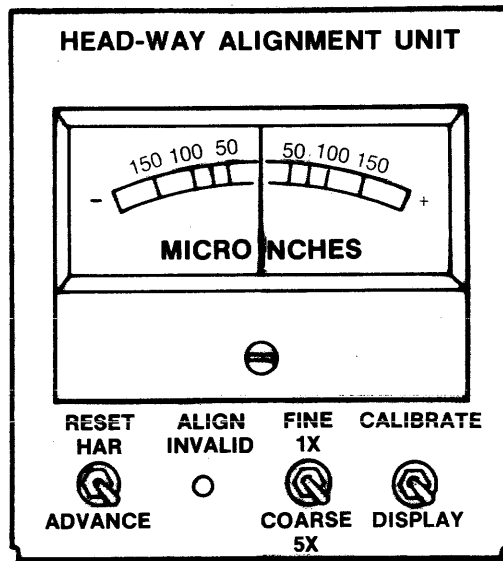

FIGURE 1-7. HEAD-WAY ALIGNMENT UNIT
1.9 HEAD ALIGNMENT FEATURE (FIGURE 1-7)